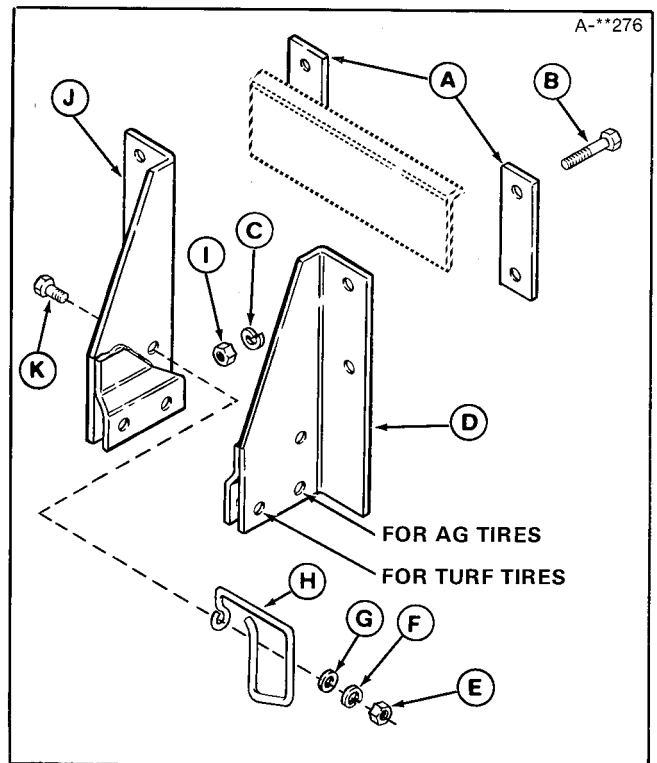
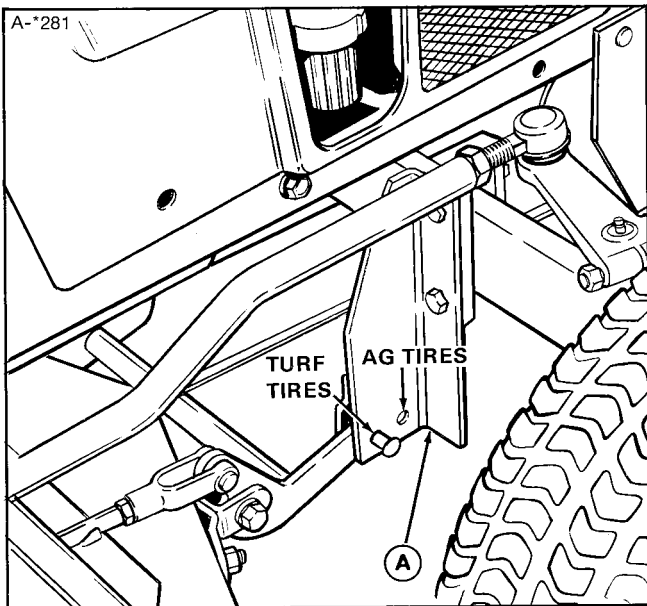

Figure 8. Mounting Brackets
Figure 9. Mounting Brackets
13. Attach the belt stop (H, figure 8) to the left-hand mower bracket with fasteners shown.
14. Install the mounting brackets (D, figure 8) with four 7/16 x 2-1/4 capscrews, lockwashers and nuts as shown. The brackets are shown installed in figure 9. Do not tighten the hardware at this time. After you hitch the mower to this bracket (see Mower Hitching) you will center the bracket on the axle and then tighten the hardware.
5. Align the mower hitch under the mounting brackets on tractor front axle (see figure 9). From front of tractor use a wood block as a support and a plank as a lever to lift the mower hitch into the mounting brackets. While holding mower up install a pin and spring clip in each side to attach mower to mounting brackets (procedure is most easily done by two persons). Use front holes for tractors with agricultural tires, rear holes for turf tires.